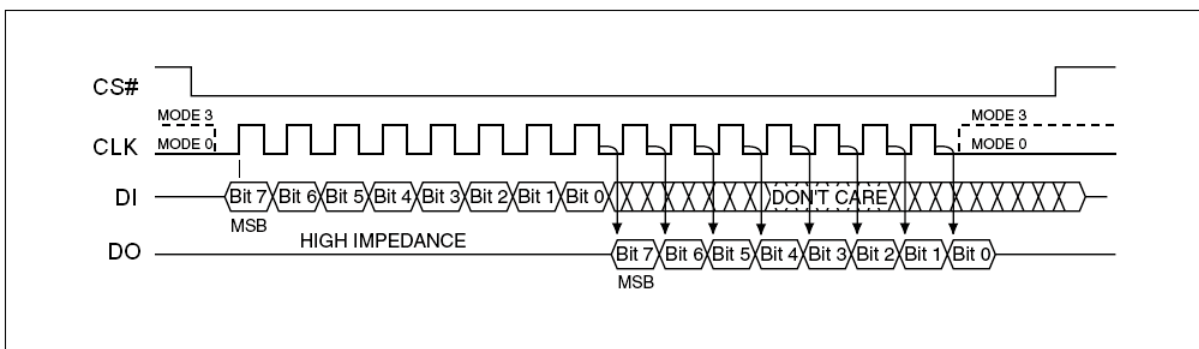

Figure 3. SPI Modes
The EN25Q32C (2B) is accessed through a SPI compatible bus consisting of four signals: Serial Clock (CLK), Chip Select (CS#), Serial Data Input (DI) and Serial Data Output (DO). Both SPI bus operation Modes 0 (0,0) and 3 (1,1) are supported. The primary difference between Mode 0 and Mode 3, as shown in Figure 3, concerns the normal state of the CLK signal when the SPI bus master is in standby and data is not being transferred to the Serial Flash. For Mode 0 the CLK signal is normally low. For Mode 3 the CLK signal is normally high. In either case data input on the DI pin is sampled on the rising edge of the CLK. Data output on the DO pin is clocked out on the falling edge of CLK.